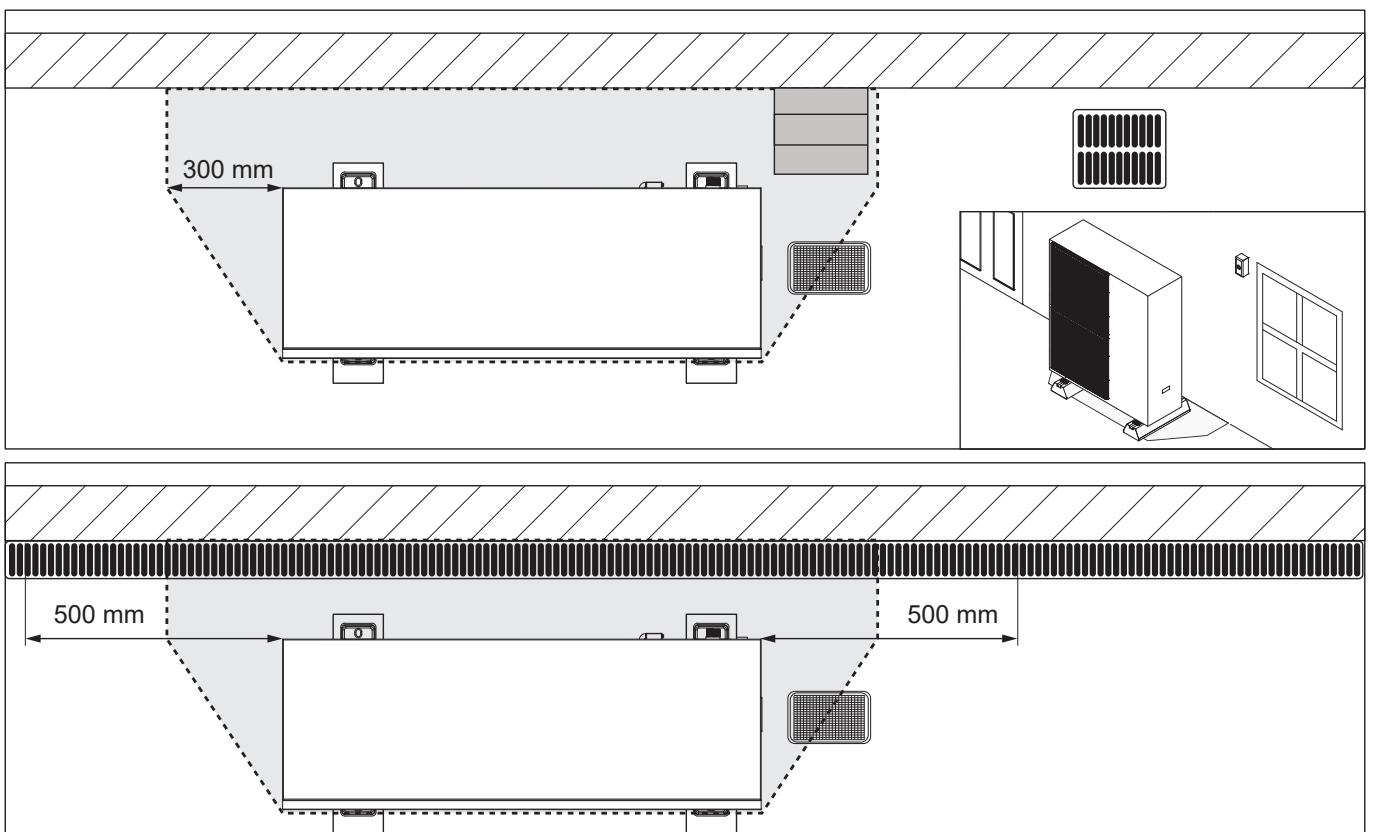

Figure 3-16: Drain zone
1. It extends a minimum of 500 mm outwards from either side of the heat pump. Refer to Figure 3-16).